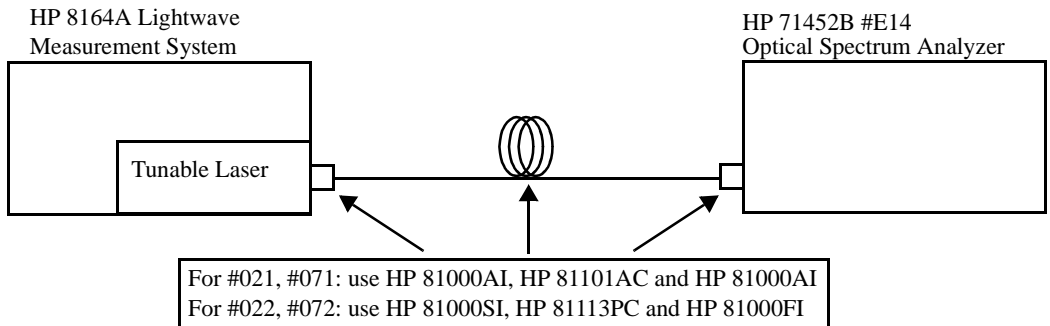

Figure D-6
- 1 Connect the Tunable Laser module to the Optical Spectrum Analyzer as shown in Figure D-6.